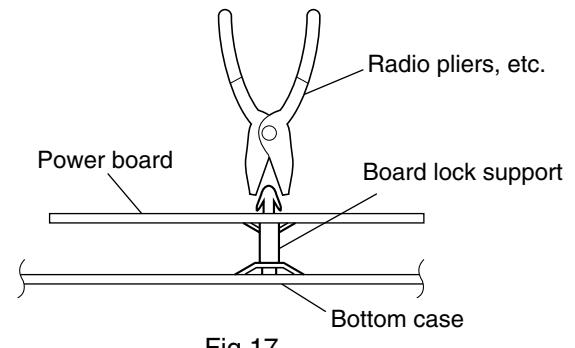

Fig.17
5. Remove the power board by pinching the two board lock supports retaining the power board using radio pliers, etc. (See Fig.17.)